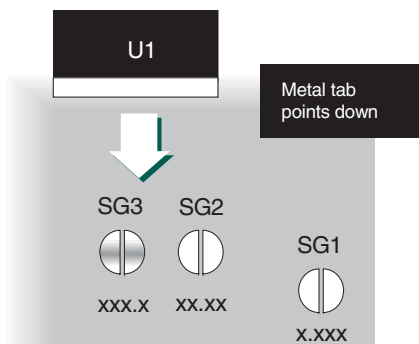

Figure 2. Installing U1
**3. Battery Operation:** Open SG4 and install U1 (LM7805CT) with its metal tab facing down as shown Figure 2. Allowable input power ranges (J1, pins 5 and 6) are as follows: